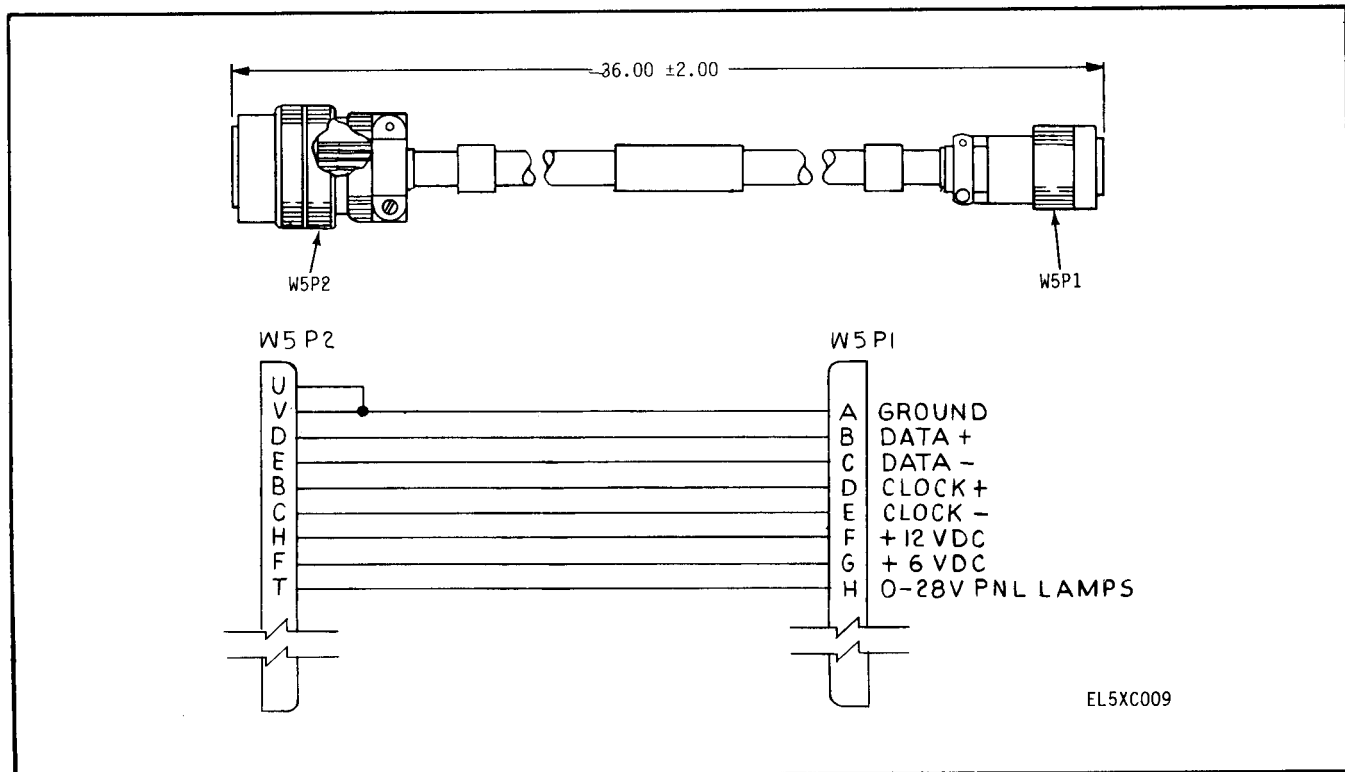

Figure 4-2. CX-13106/ARC-164(V) Cable Assembly Wiring Diagram
d. Functional Test. Prior to any maintenance being performed on a suspected malfunctioning test set group, a functional test should be accomplished. This functional test includes connecting the test set group to a known good uhf receiver-transmitter and uhf radio control and checking the operation of each component of the test set group. By using this procedure, a fault can be isolated to a specific component of the test set group. Should a unit under test fail the functional test, the first step should be to check the continuity of the cable assemblies (fig. 4-2 through 4-6).